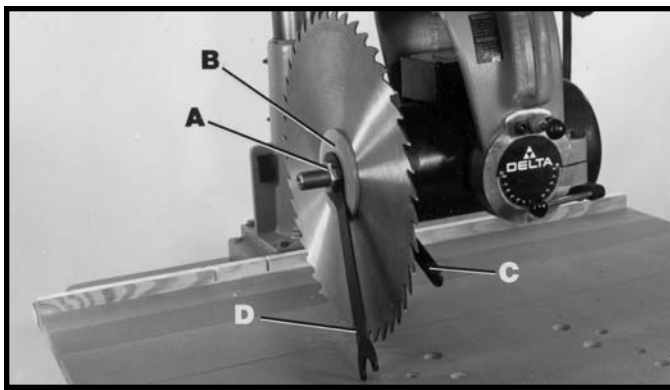

Fig. 23
2. Install blade on the saw arbor with teeth of blade pointing downward when viewed from front of saw, as shown in Fig. 23. Place the recessed end of blade flange (B) Fig. 23, against the blade, and thread the arbor nut (A) onto the arbor.
Place the 1/16" wrench (C) Fig. 23, on flats of arbor and firmly tighten arbor nut (A), with the 1-5/8" box end spanner wrench (D), (left handed thread). Firmly tighten set screw (E).